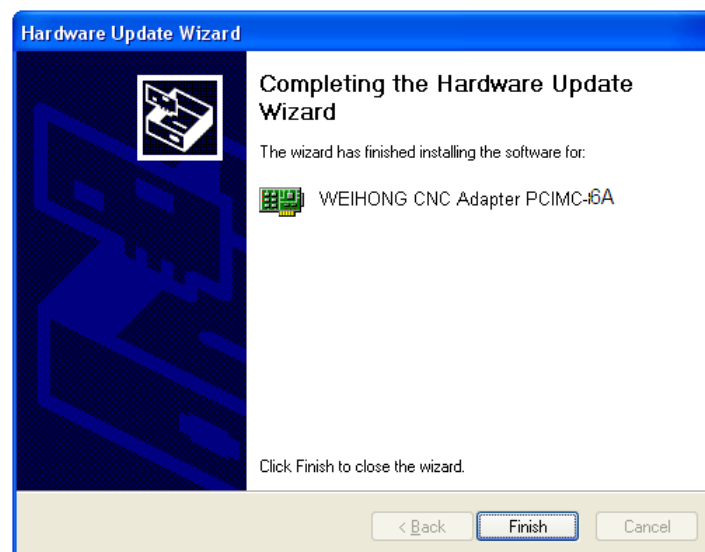

Fig. 2-8 Driver update completed
- 9) When the updating is finished, a dialog as shown in Fig. 2-8 will pop up. Click [Finish] to complete the update of the hardware driver. Double click the icon  on the desktop or click the icon on the menu "Start-All Programs" can launch the software successfully.